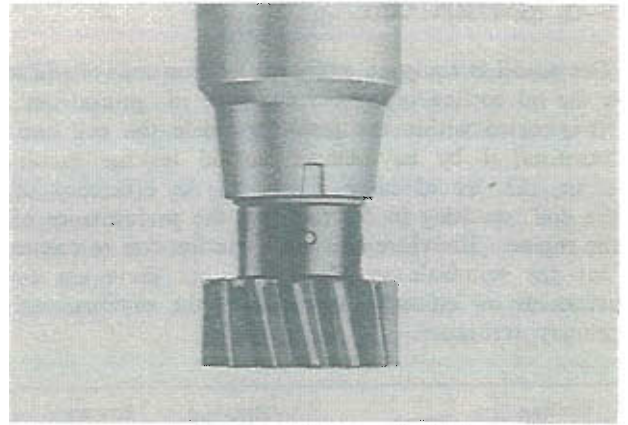

Fig. 5-14 Aligning tally mark
2. Align the tally mark on the distributor housing and driven gear as shown in Fig. 5-14.